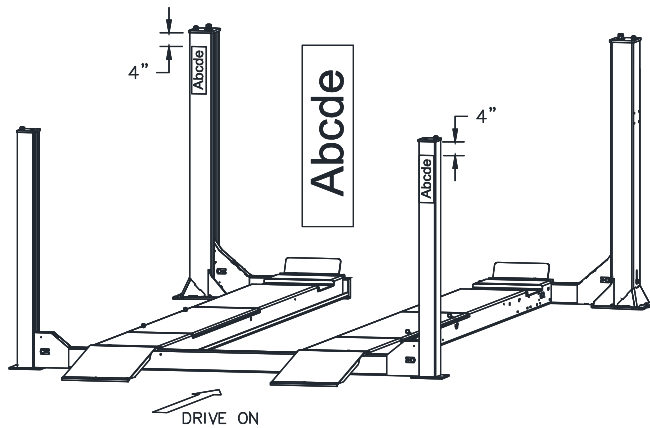

Fig 22 – Decal Placement
- 65) Apply decal 4" from top of columns, **Fig 22**.